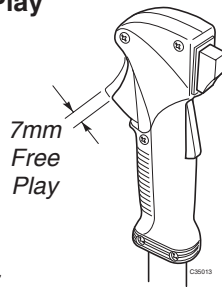

Figure 17
2. Test the throttle lever for proper “free play” of approximately 7mm in the idle position. See Figures 17 and 18. If necessary, adjustments can be made at the carburetor by: